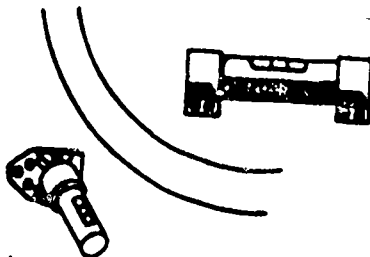

Figure 4. Disc Spirit Level.
d. Rotate the disc and ring until the spirit level on the disc indicates a level condition. Keep the protractor vertical by using the corner spirit level, as illustrated in figures 4 and 5.